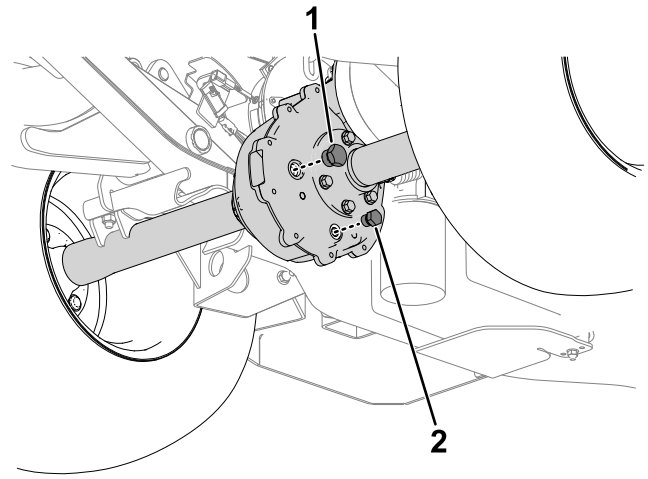

Figure 52
2. Remove the fill plug (Figure 52).
3. Remove the drain plug (Figure 52) and allow the fluid to drain completely.